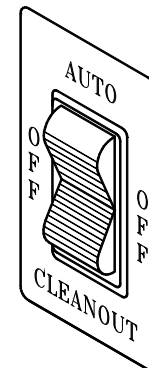

Fig. 2
2. Set each control switch (Fig. 2) to the "CLEANOUT" position momentarily to verify the direction of rotation of the dasher. It should rotate counter-clockwise.